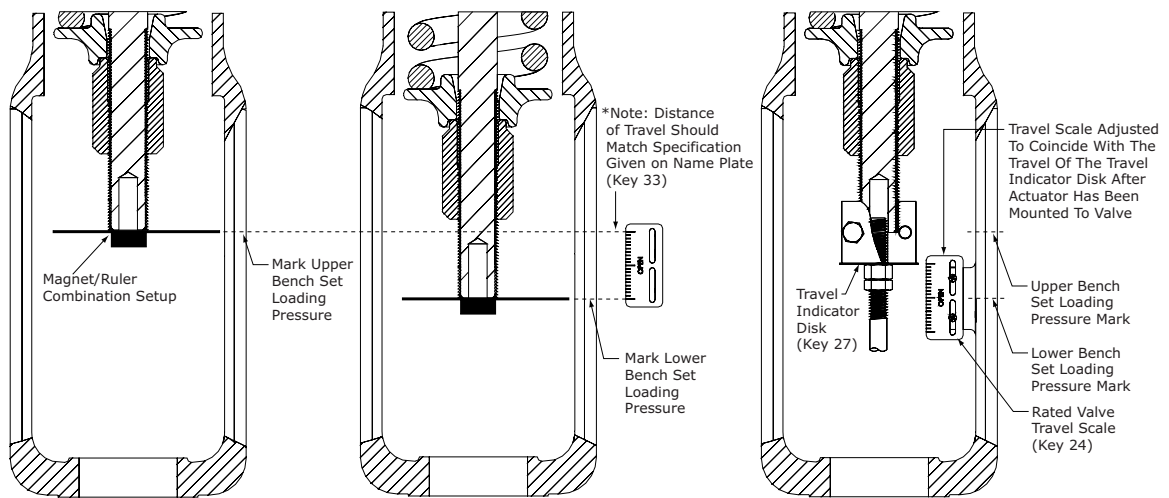

Figure 3 Bench Set Spring Adjustment Diagram
When lifting the actuator from the shipping container, it is advisable to remove 2 actuator casing bolts, 180° apart, and temporarily replace them with eye bolts and nuts. Position the lifting straps through the eye bolts to avoid damage to the tubing and mounted accessories. See Figure 3.
(Refer to Figure 3)
- 2 Once the upper bench set pressure has been set, use a magnet or piece of tape to attach a piece of metal or ruler to the bottom of the actuator stem (Key 3) to use as an indicator arm. Make a mark to indicate the stem position at the upper bench set pressure (See Figure 3). Make sure the travel is fully extended.
- 3 As shown in Figure 3, the valve stem should fit inside the actuator stem. Install the stem connector (Key 22). It is important to position the stem connector so that the threads properly engage with those of the stems. Connect the other half of the stem connector and orientate the stem connector as show in Figure 3. It is at this time that any accessories (such as positioner arms) that need to be connected to the stem connector should be put in place. Install the stem connector bolts and tighten.
- 4 Re-position the travel disk (Key 27) under the stem connector (Key 22), thread up the jam nuts (Keys 28 & 29) to hold the travel disk in place and tighten the jam nuts together (Refer to Figure 3). Do not over tighten the jam nuts.